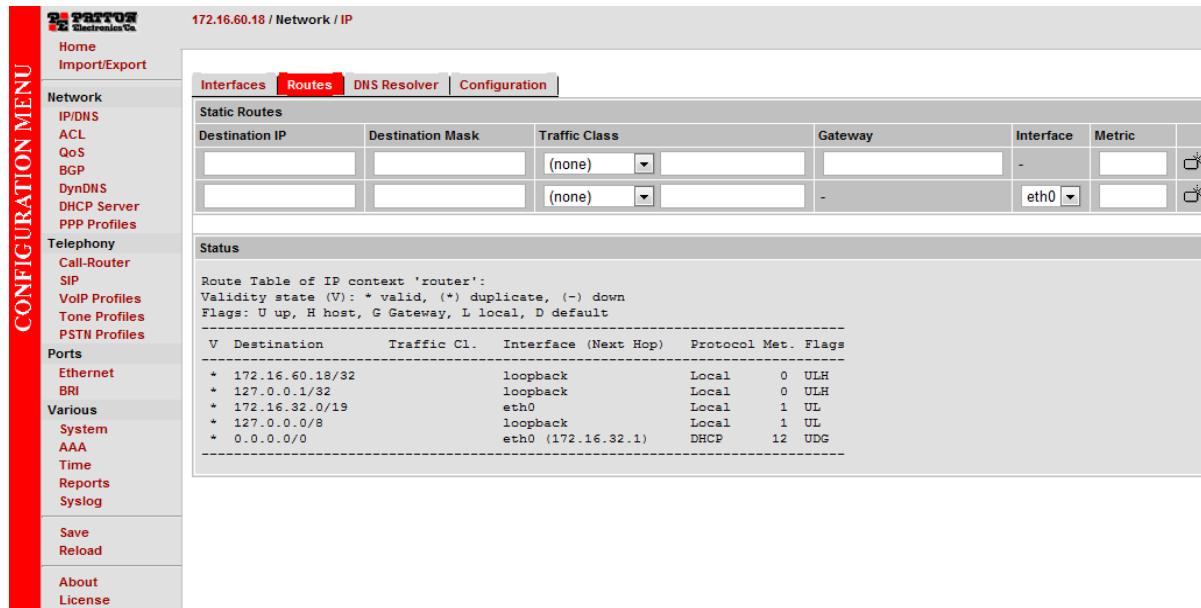

Figure 9. Default Gateway Configuration
- In the configuration menu pane, click **IP/DNS**. Click on the **Routes** tab. The Configuration screen for Static Routes displays (figure 9).